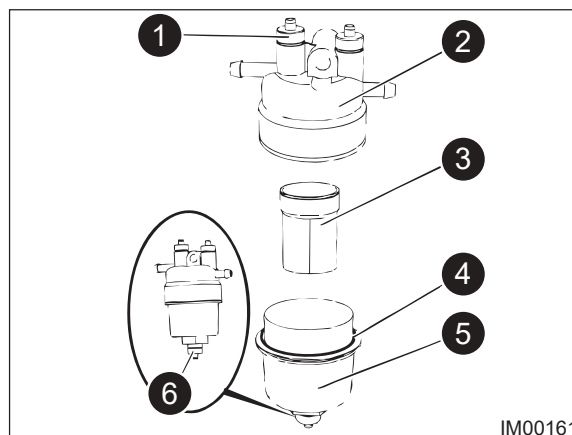

Fig: 11.20 - Water Separator
4. Clean the outside body of the filter assembly (Fig: 11.20).
5. Open Drain Valve (Item 6) and open Vent Screw (Item 1) and drain the filter. Close drain screw and close vent screw. Use only hand pressure in order to tighten the drain screw and the vent screw. Ref: Fig: 11.20.
6. Remove Filter Bowl (Item 5) from Filter (Item 2) and remove Filter Element (Item 3) from filter. Discard filter element. Ref: Fig: 11.20.
7. Remove O ring seal (Item 4) and discard. Ref: Fig: 11.20.
9. Install new O ring seal (Item 4) and install new Filter Element (Item 3). Ref: Fig: 11.20.
10. Install Filter Bowl (Item 5) to Filter (Item 2) and tighten the filter bowl to a torque of 10 Nm (88 lb in). Ref: Fig: 11.20.